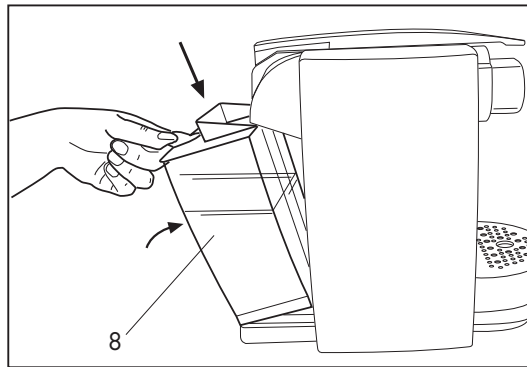

Fig. 3
- Reinstall the tank by slightly tilting and resting it on the water valve. **(Fig.3)**